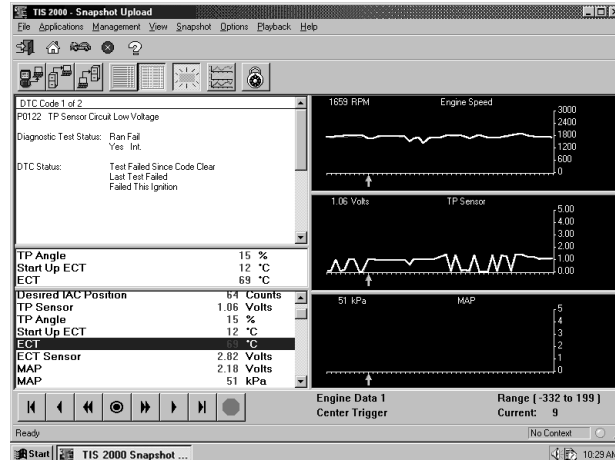

FIGURE 8-51. Multiple Display Modes
1. Click on the desired parameter to highlight it, then click on the Lock/Unlock Parameters icon (Figure 8-51).